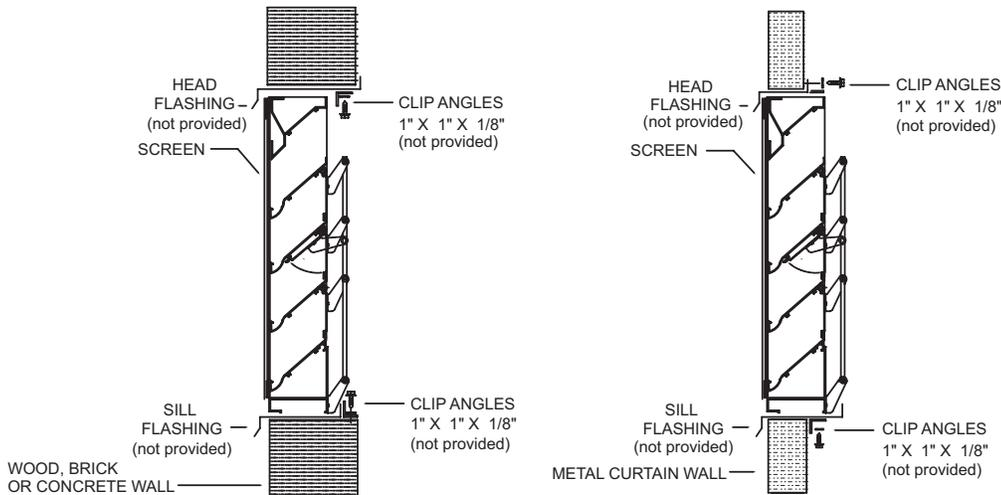

Figure 1
3. Install head and sill flashing (not provided) if needed in wall opening as per Figure 1.
4. Use clip angles (not provided) to attach frame to walls as per Figure 1.